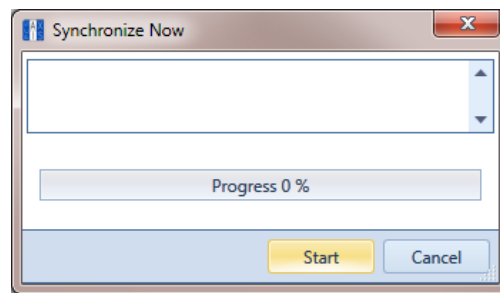

Figure 15-15. Synchronize Now
- 1 Synchronize data between the subscription and publication databases. Click **Tools** > **Synchronize Now** (Figure 15-15).